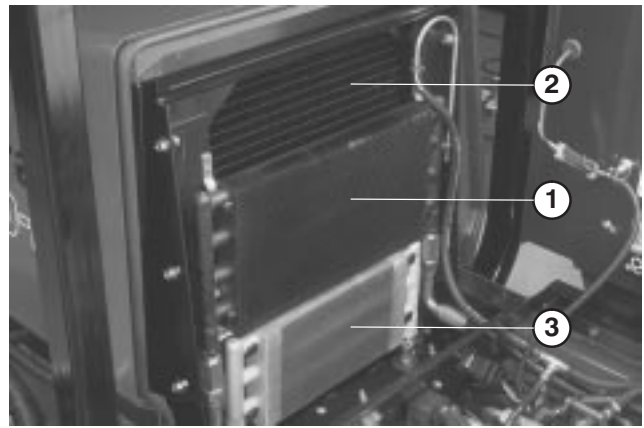

Figure 56
3. Slightly raise oil coolers and pivot forward (Fig. 56). Clean both sides of oil coolers and radiator area thoroughly with water or compressed air. Pivot oil coolers back into position.